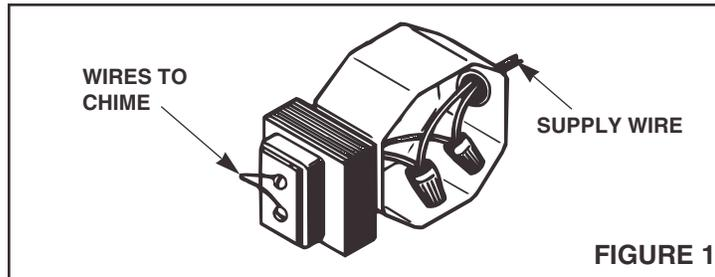

FIGURE 1
2. Refer to Figure 1. Mont transformer to a conveniently located junction box. Do not mount transformer in attic.